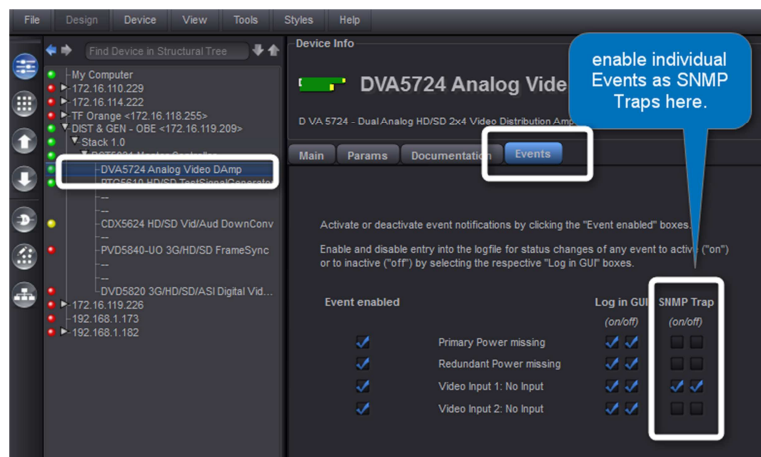

figure 1: SNMP Traps are enabled per individual CardModule
Whenever an Event of an individual CardModule changes its state (passive->active or active->passive), an appropriate entry is added to the LYNX MasterController's Logfile. Additional notification options can be controlled from the individual CardModules "Events" Tab in the APPolo GUI (see figure 1):
- (1) Enable the Option OC\_RSL\_CTRL in the MasterController that hosts the CardModule in question.
- (2) Use the LYNX APPolo GUI to navigate to the CardModule, go to the Events-tab and enable the SNMP-Traps for any event (for example: "Video Input 1: No Input") at the DVA5724 as shown in figure 1.